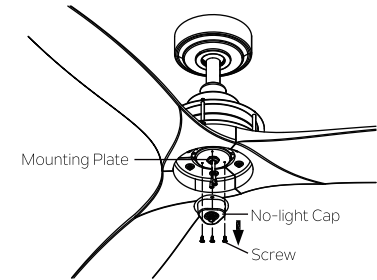

Fig. 22
Step 2. Remove the no-light cap from the mounting plate by removing the 3 screws, keep screws for using later. (Fig. 22)